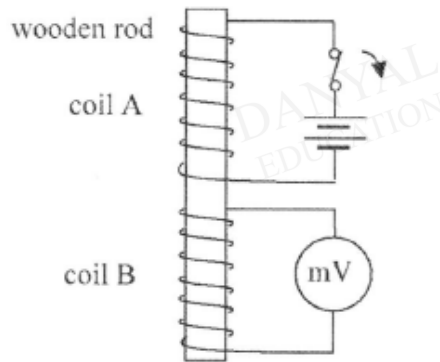

Fig. 10.2
- (b) (i) On Fig. 10.2, draw an arrow on coil B to show the direction of the induced current in coil B when the switch was just opened. [1]